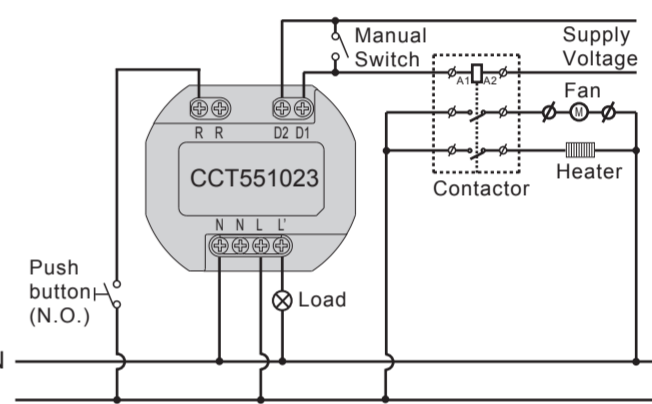
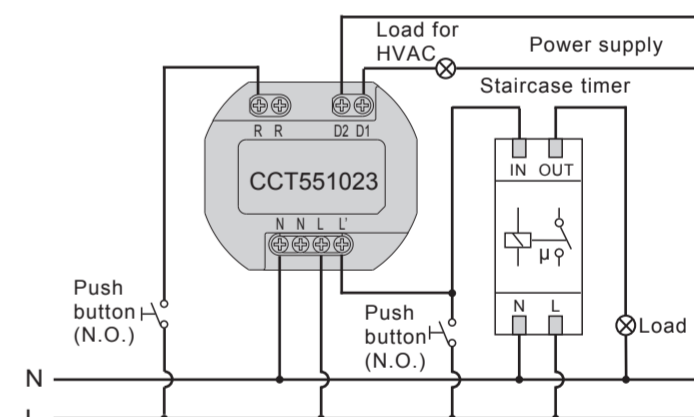
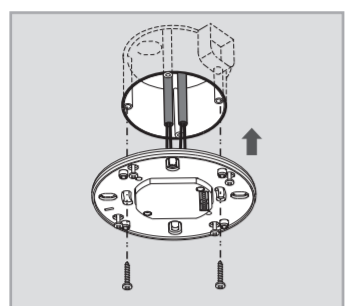
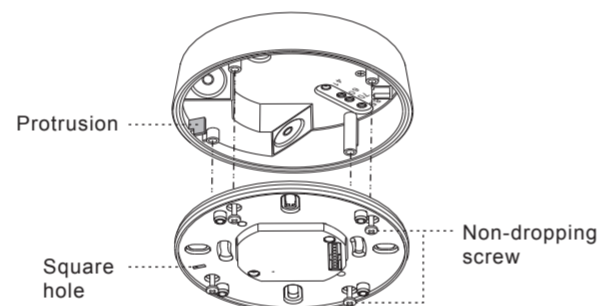

FIG.5
FIG.6
FIG.9
FIG.17
#### 4.3.1 CCT551023 for standard application (See. FIG.5)
#### 4.3.2 CCT551023 controls staircase timer switch (Time1 should be set to $t_{rsL}$ ) (See. FIG.6)
4.4.1.3 Fix the power box into European standard junction box with 2pcs screws (See FIG.9).
4.4.2.3 Please refer to illustration of FIG.5 - FIG.6 for correct wiring and then screw the Power box cap tightly.
4.4.3.5 Refer to wiring diagrams for correct wiring connection (See FIG.5 - FIG.6). There is a square hole in the fixing plate, when you put the fixing plate into the junction box, please fit the fillister to the junction box's protrusion (See FIG.17), then fix the detector head on the power box following FIG.9 and assemble them with the attached 4pcs non-dropping screws.